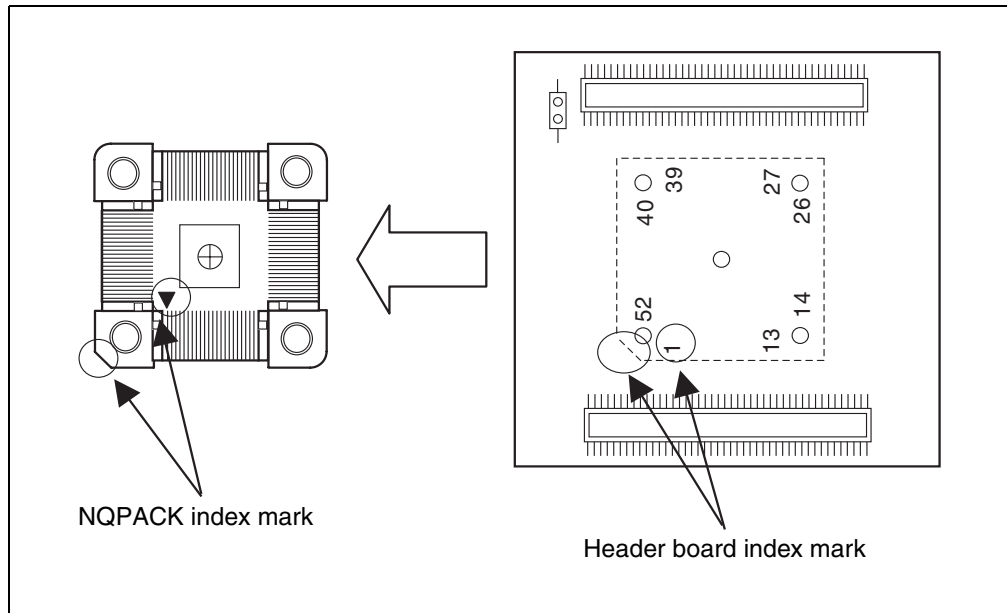

Figure 4 Index Position
1. To connect the header board to the user system, match pin 1 indicated by the index mark (▲) on the NQPACK mounted on the user system with pin 1 indicated by the index mark (an angle cut linearly at one place only in silk screen) on the header board and then insert it (see “Figure 4”). The pins of YQPACK are thin and easy to bend. Insert NQPACK after confirming that the pins of YQPACK are not bent.